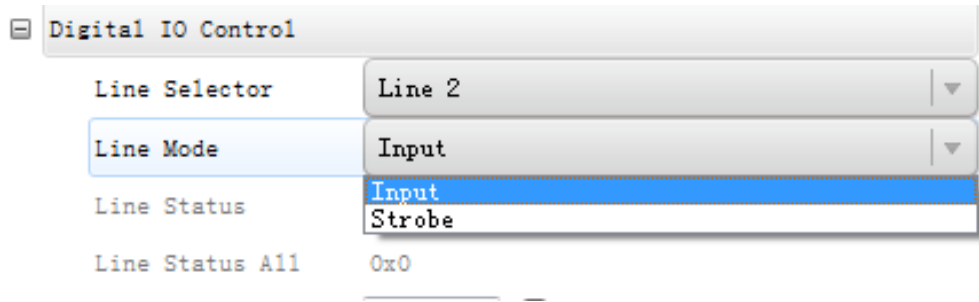

Figure 3-33 Configuring Line 2 Pin to Input
**Note:** By default, Line 0 is signal input pin. Line 2 is configurable input and output pin. Configure Line 2 to input pin in Digital IO Control, as shown in Figure 3-33, in order to do frequency division for Line 2.